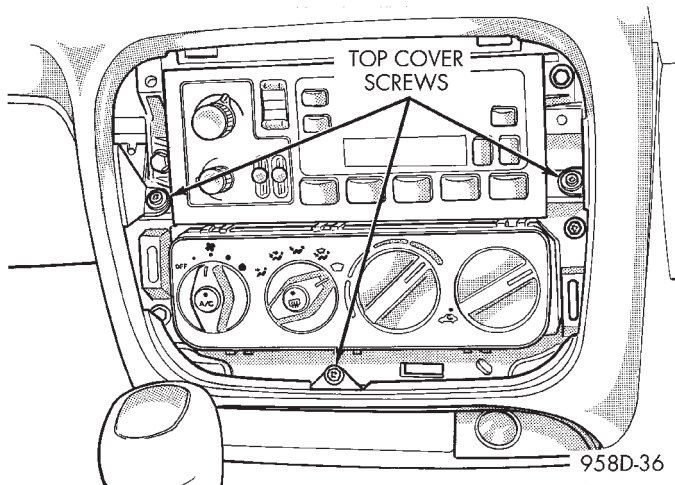

Fig. 56 Instrument Panel Top Cover—Center
(4) Remove screws holding instrument panel top cover to center of instrument panel (Fig. 56).